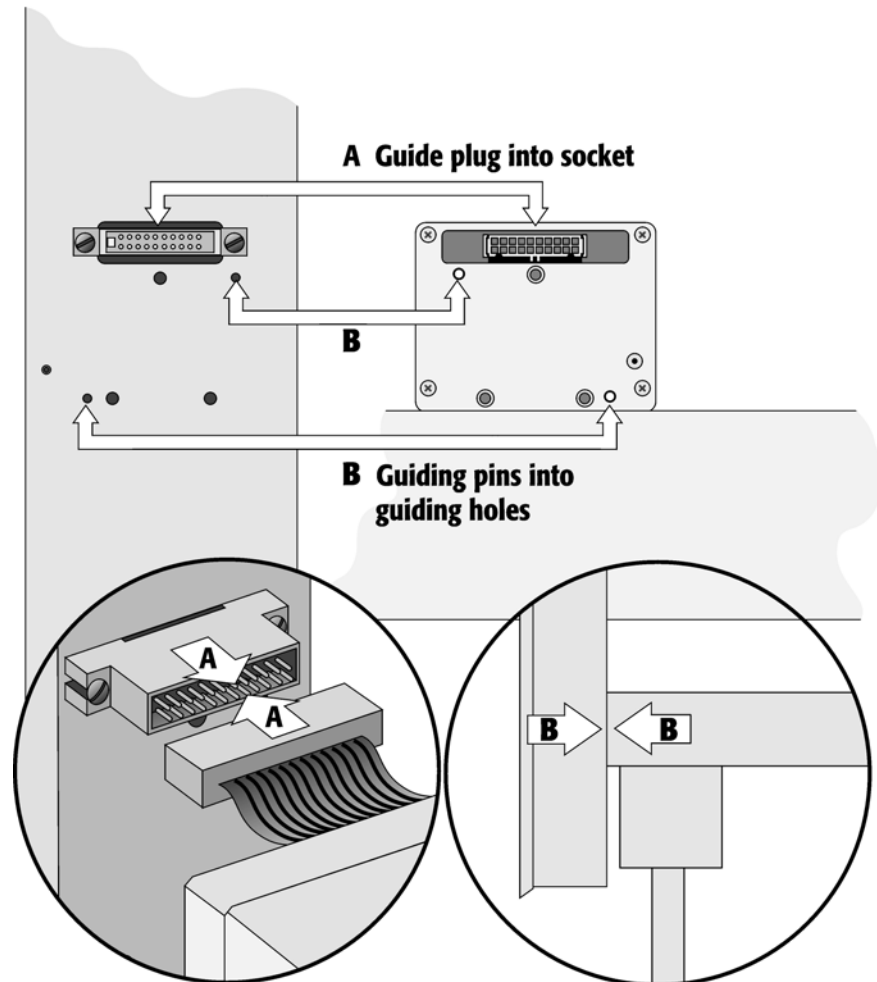

Figure 7. Connecting the Injection Unit Flat Cable
- 2 Connect the flat ribbon cable **A** protruding from the front end of the Y Crossrail to the corresponding connector on the Injection Unit (see Figure 7).